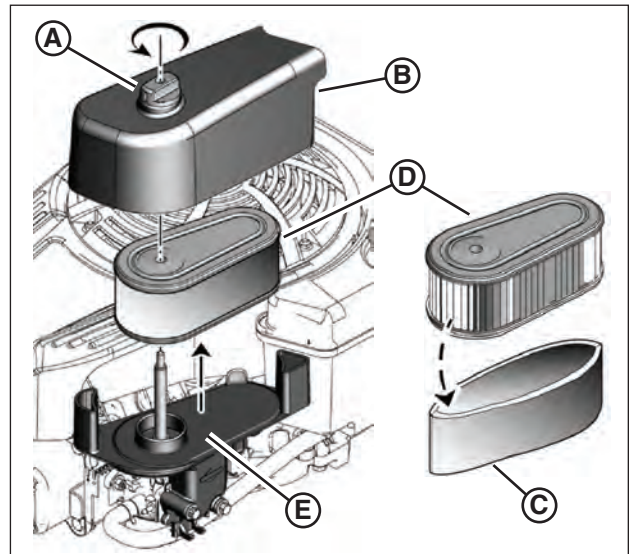

Figure 14: Air filter and pre-cleaner
1. Remove the fastener (**A, Figure 14**) and the air filter cover (**B**).